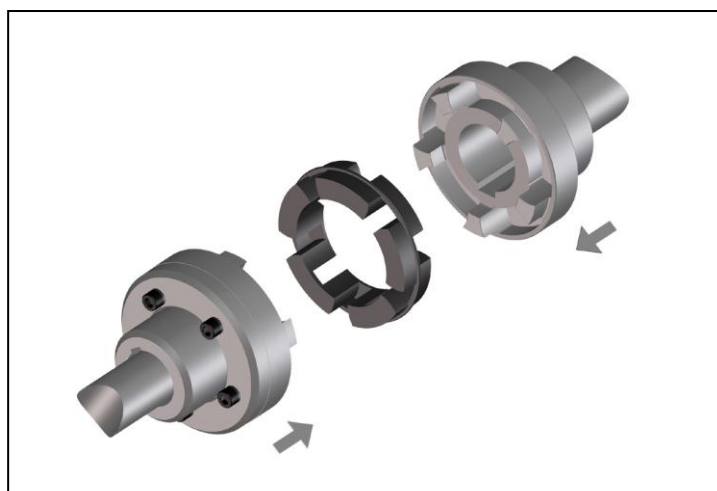

Fig. 5
- Push the shaft ends with the mounted coupling halves together (Figure 5).